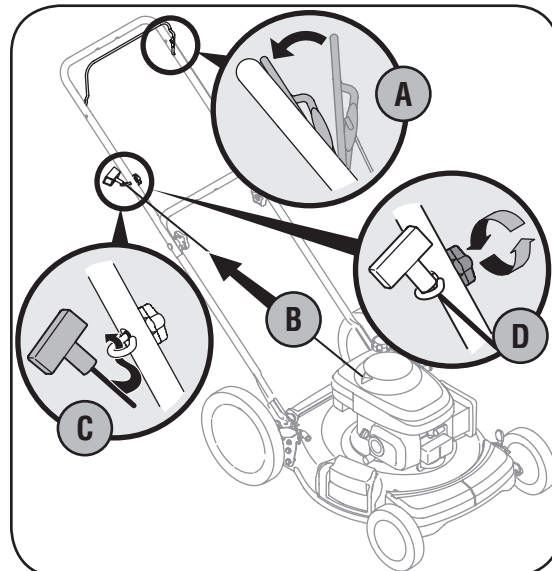

Figure 3-3: Pull recoil starter through rope guide and tighten.
3. The rope guide is attached to the right side of the upper handle. See Figure 3-3. Loosen the wing nut which secures the rope guide.